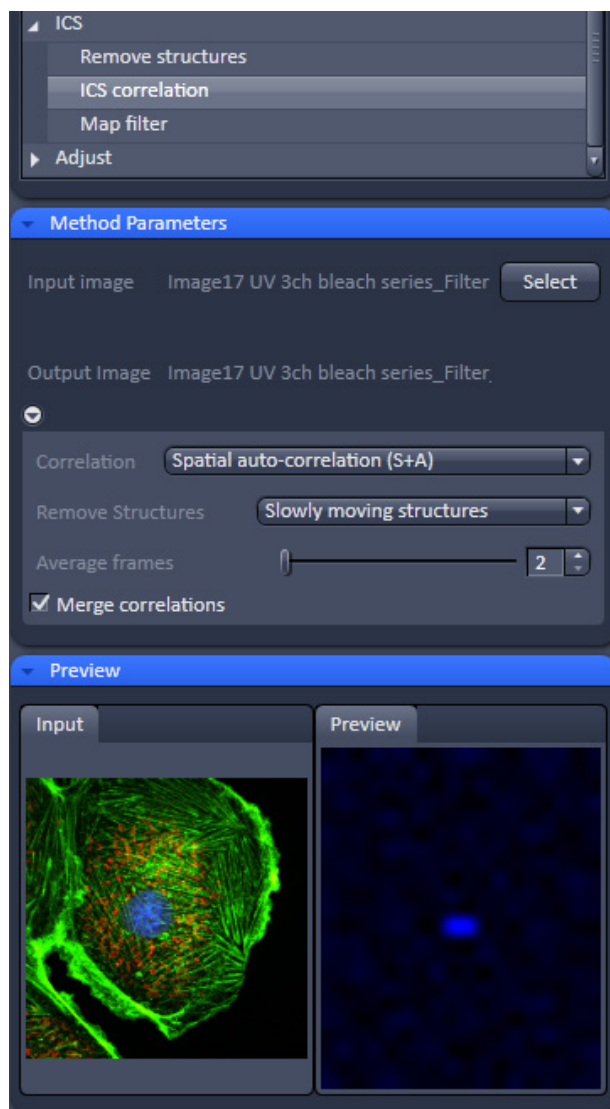

Fig. 542 Processing – ICS correlation
- Activate **ICS correlation** in the **ICS** tool. The **ICS correlation** menu will appear (Fig. 542).